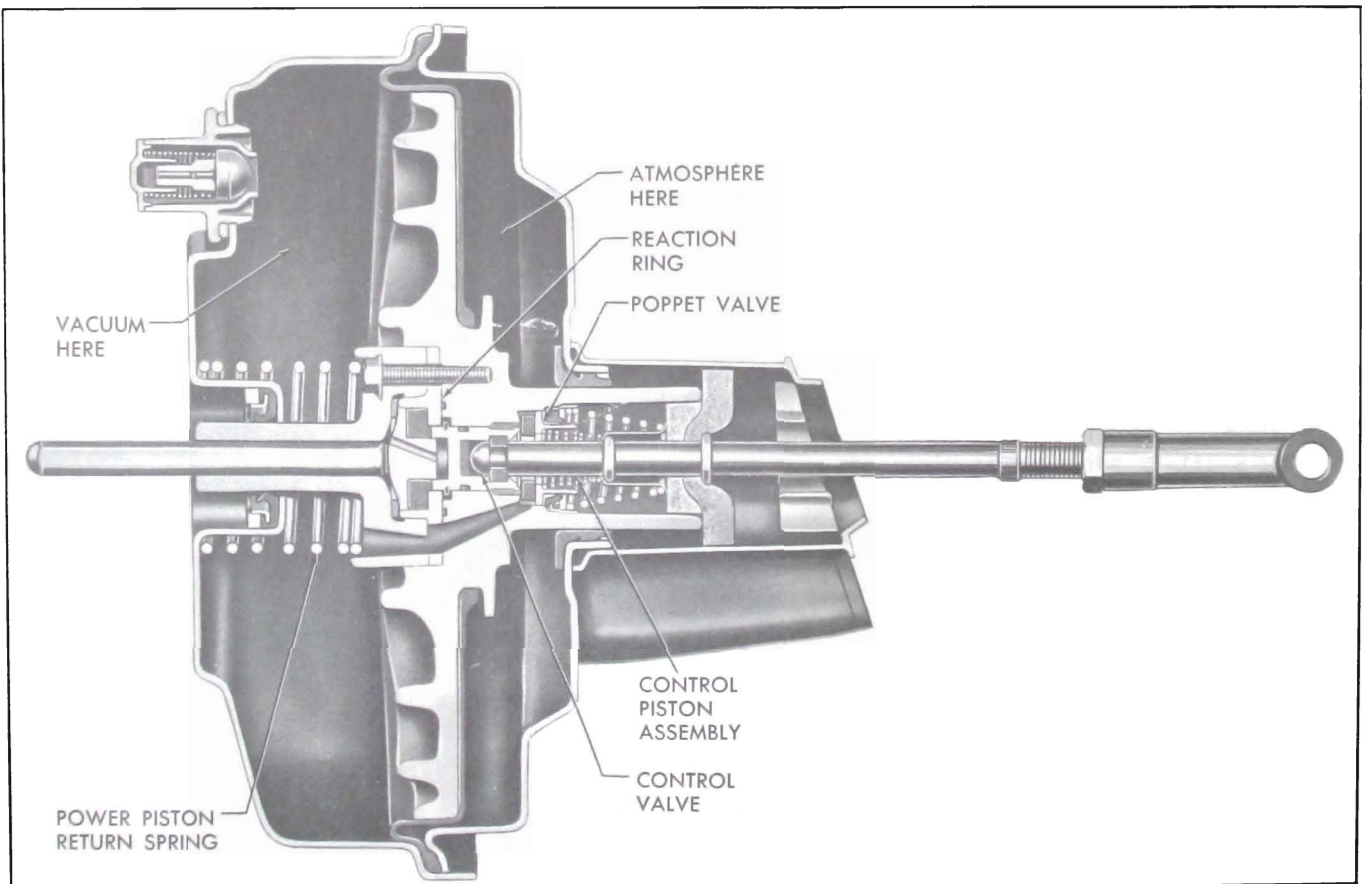

Figure 9-32—Housing Lock in Position
10. Install the housing lock on the long tang of the cover (Figure 9-32). NOTE: This lock will not be satisfactory if installed incorrectly. If installed on one of the short tangs, the unit could become unlocked with use.